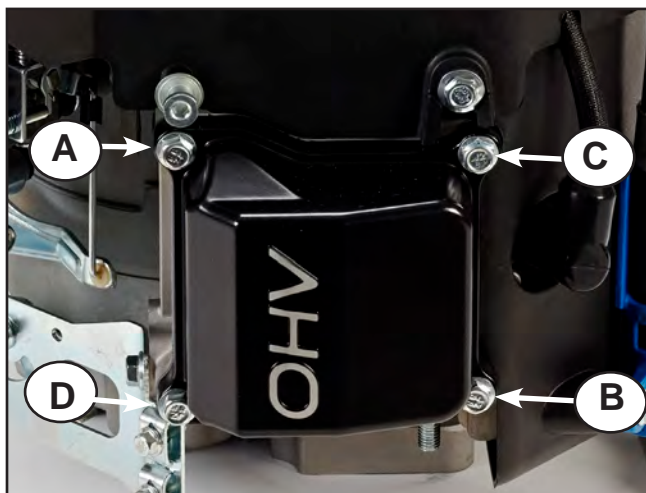

Figure 23
13. Torque valve cover bolts to 89 in-lbs. (10 Nm) (Figure 23).